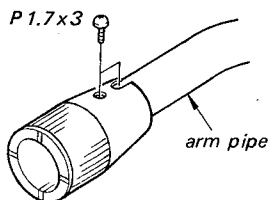

Fig. 2
2. Install the neck-cylinder connector, screw collar and neck collar to the arm pipe. (Refer to Fig. 2.)